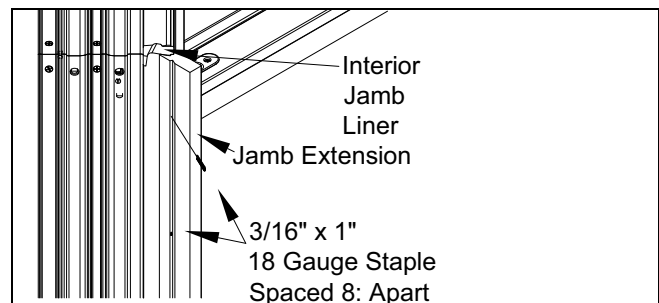

Figure 3
2. Cut jamb extensions the same length as jamb fillers applied in step 2 in the Mulling Preparation section and position on each end unit to outer side jamb. Align jamb extension with outer edge of jamb filler. Attach jamb extension using 3/16" x 1" 18 gauge staples spaced 6"-8" (152-203) apart. See Figure 3.